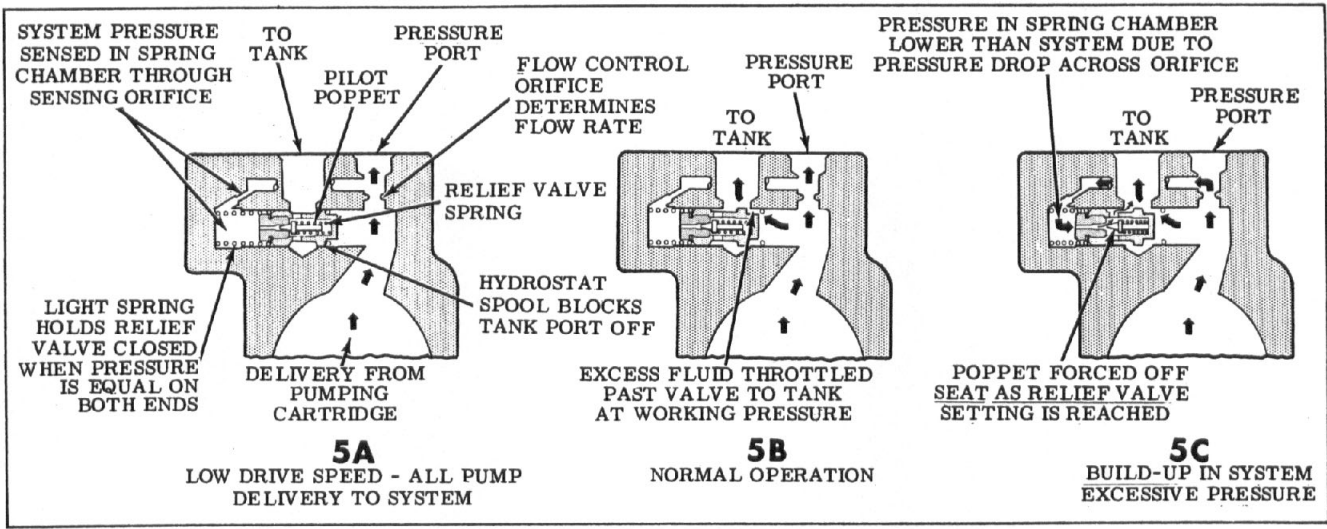

Figure 5 - Flow Control and Relief Valve Operation
In pumps with straight-vane cover-end cartridges, it is possible to incorporate a combination flow control and relief valve in a special outlet cover. As shown schematically in Figure 5, this option consists essentially of (1) a flow control orifice in the pressure outlet port, (2) a spring-loaded hydrostat spool which functions as a pressure compensator and (3) a spring-loaded relief valve poppet, located inside the hydrostat.
1. Flow Control Operation - The light spring shown at the left of the hydrostat in Figure 5 is equivalent to approximately 40 psi. In flow control operation, the hydrostat, because of this spring, operates as a balanced compensating piston--maintaining a constant rate of flow across the flow control orifice.